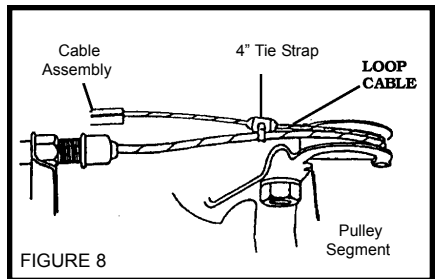

FIGURE 8
5. To secure the **LOOP CABLE** to the throttle cable, punch a small hole in the **BEAD CHAIN COVER** and slide the **TIE STRAP (4")** through the hole and secure to the existing throttle cable. **Figure 8**